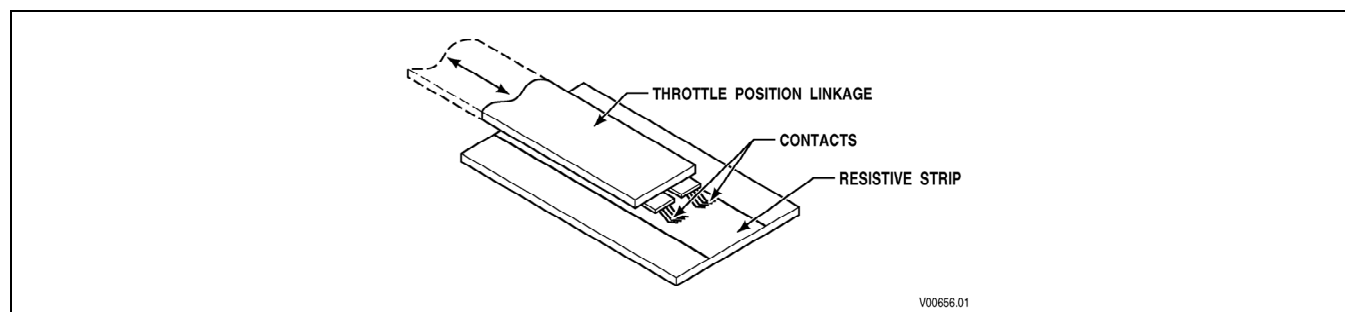

Figure 6–12. Throttle Position to Voltage Conversion
- a. To properly communicate throttle position to the TCM, the TPS must convert its mechanical movement to an electrical form the TCM can understand. To accomplish this, contacts move across a resistive strip inside the sensor which translates position into voltage (Figure 6–12).